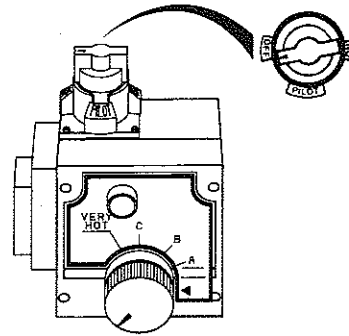
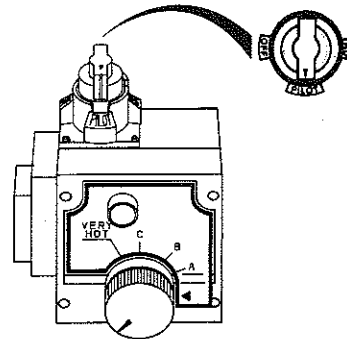

Figure 10
Figure 11
4. Turn gas control knob clockwise (↻) to "OFF" position. Knob cannot be turned from "PILOT" to "OFF" unless knob is depressed slightly. **DO NOT FORCE.** (Figure 10, page 15)
5. Wait five (5) minutes to clear out any gas. If you then smell gas, STOP! Follow "B" in the safety information above on this label. If you don't smell gas, go to the next step.
8. If you don't smell gas, turn knob on gas control counter clockwise (↺) to "PILOT" position. (Figure 11, page 15)
9. Push in control knob all the way and hold down. Immediately light the pilot with a match. Continue to hold control knob in for about one (1) minute after the pilot is lit. Release knob and it will pop back up. Pilot should remain lit. If it goes out, repeat steps 3 through 8.
- If the pilot will not stay lit after several tries, depress and turn the gas control knob clockwise (↻) to "OFF" and call your service technician or gas supplier. (Figure 10, page 15)
2. Turn gas control knob clockwise (↻) to "OFF" position. Knob cannot be turned from "PILOT" to "OFF" unless knob is depressed slightly. **DO NOT FORCE.** (Figure 10, page 15)